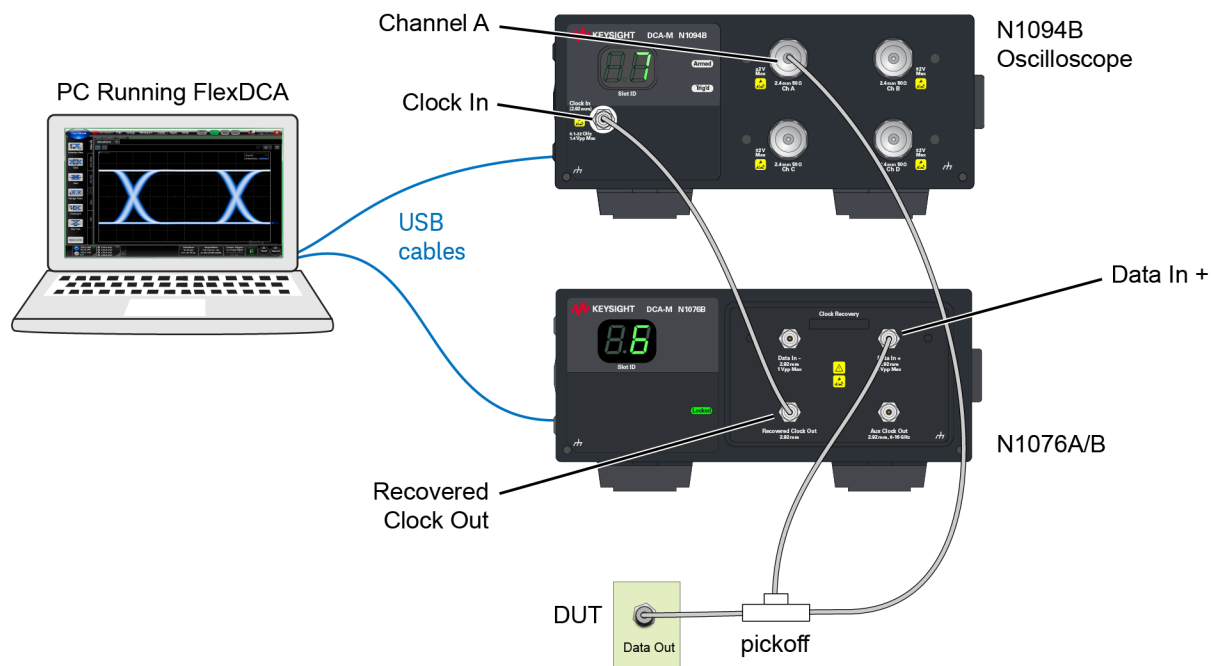

Figure 24. Typical Connection Setup
3. Connect the N1076B as shown in *Figure 24 on page 62*. If connecting to an N1000A (or 86100D) instead of a PC, be sure to connect the USB cable to the N1000A's rear-panel USB port.